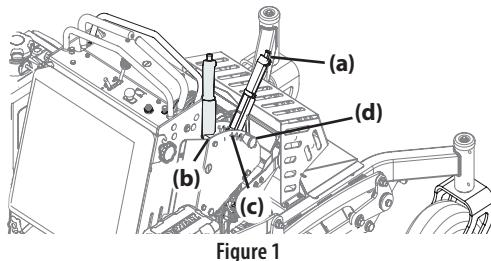
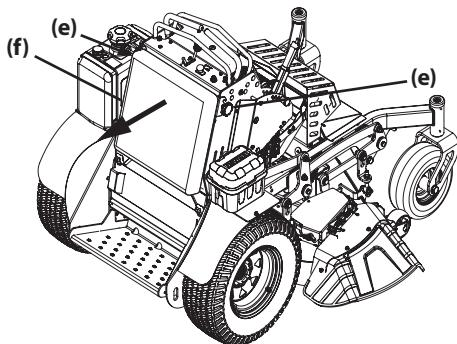

Figure 1
Figure 2
**SLOPE GAUGE****Slope Gauge****Figure 1****Figure 2**
3. Align either side of the slope gauge with the object (See Figure 1 and Figure 2).
4. Adjust gauge up or down until the left corner touches the slope (See Figure 1 and Figure 2).
5. If there is a gap below the gauge, the slope is too steep for safe operation (See Figure 2 above).
2. Use the deck lift handle (a) to raise the deck to the transport lock position (b) (highest adjustment setting) and insert the clevis pin (c) into the highest mowing setting (d) to secure the deck lift handle in place. See Figure 1.
- a. Loosen the two star knobs (e) securing the leg pad (f) to the mower. See Figure 2.